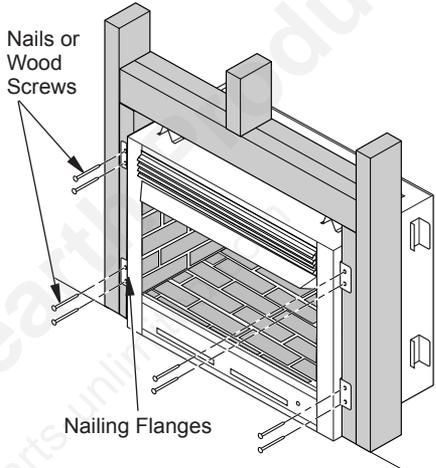

Figure 10 - Attaching Firebox to Wall Studs
7. Attach firebox to wall studs using nails or wood screws through holes in nailing flange (see Figure 10).